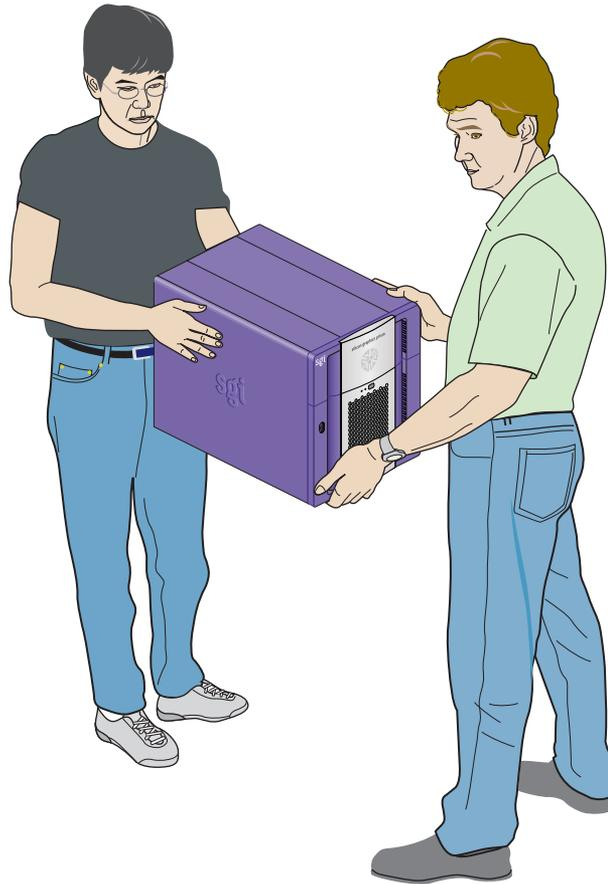

Figure 3-2 Moving the System
3. Move the system to a sturdy, flat surface. Always use two people to move the system (see Figure 3-2).